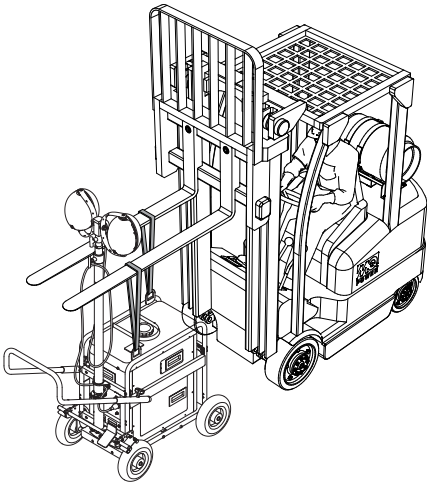

Figure 32. Lifting the GBX4S Cart
2. Use sling belts of sufficient strength with the lifting eyes to lift the light cart (Figure 32). Make sure that the light cart is balanced horizontally while lifting.